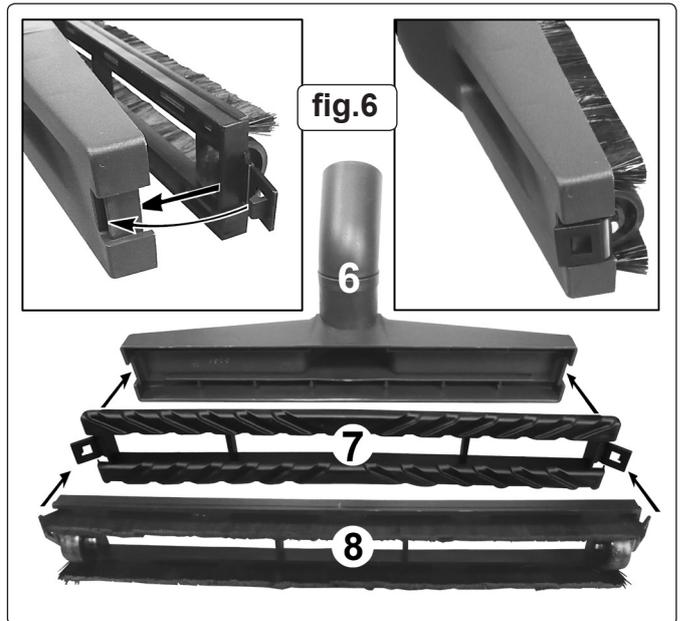

fig.6
- 4.3.2. Referring to fig.6, assemble either the carpet insert (7) or the brush insert (8) into the floor tool body (5). Place the insert into the lower opening of the floor tool body and snap the tabs at either end into place to secure it.